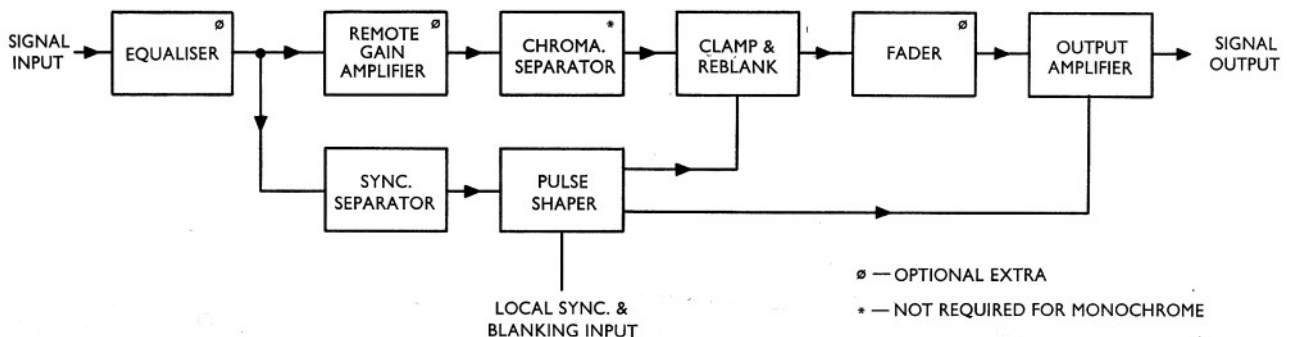

Fig. 1. Simplified block diagram of Line Clamp Amplifier with Pulse Reshaping.
1. The Line Clamp Amplifier with Pulse Reshaping, (Fig. 1), provides synchronizing pulse insertion on synchronous signals and is suitable for use within the station or studio where local synchronizing and blanking pulses are available.